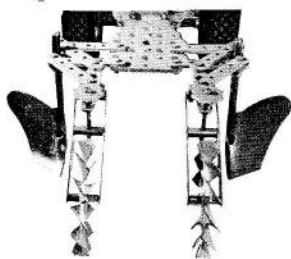

Figure 26
6. Rotate the Cultivator to the position shown in Figure 26. In this position the Tines will cut in the same direction (clockwise) as the forward movement of the Tractor.
Check the Cultivator Drive Assembly oil level every eight hours of operation by removing the Oil Level Plug, (1 in Figure 26). If oil runs out of the Oil Level Hole, the oil level is all right; if not, oil must be added.
To add oil, remove the Oil Filler Plug, (2 in Figure 26), and pour through the Oil Filler Hole until oil be-
Six-inch Hiller Set-Up uses right and left Hillers; these can be used for closing rows as well as for the hilling. Hillers can be used to throw dirt away from or around the plants as desired. A furrower, available in 10 or 12-inch depths, can be used with the Hillers to bring dirt from the center of the row to the Hillers, which in turn throw dirt around the plants. (Figure 26).